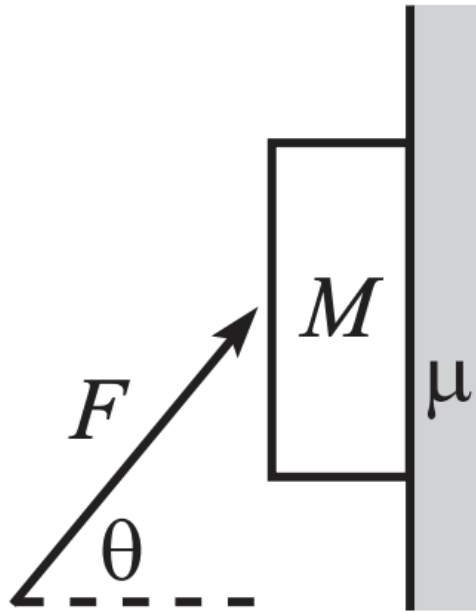

Figure 3: Book on wall
2. A book of mass  $M$  is positioned against a vertical wall. The coefficient of friction between the book and the wall is  $\mu$ . You wish to keep the book from falling by pushing on it with a force  $F$  applied at an angle  $\theta$  with respect to the horizontal ( $-\pi/2 < \theta < \pi/2$ ), as shown in figure 3. (Morin)